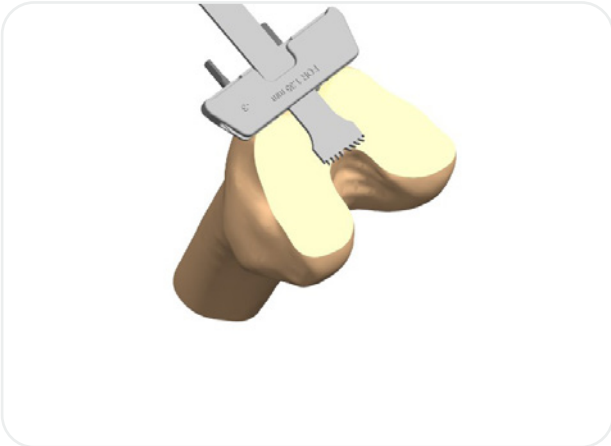

Figure 76
1. Resect the distal femur (**Figure 76**) then remove the distal femoral cutting block.